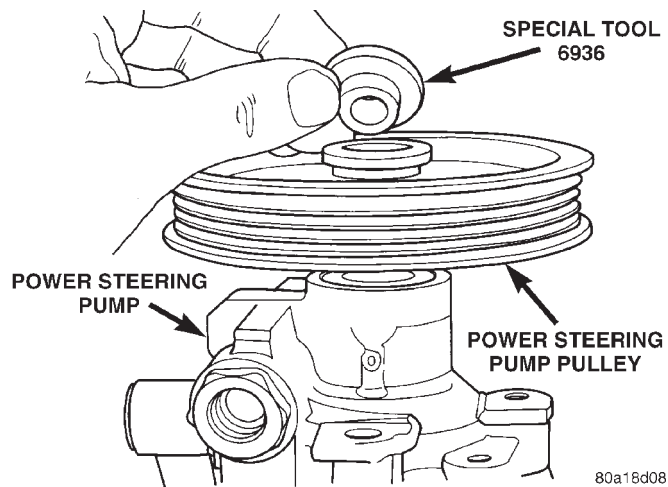

Fig. 55 Special Tool 6936 Correctly Installed On Power Steering Pump Pulley
- (3) Place Installation Spacer, Special Tool 6936, (Fig. 55) on top of the power steering pump pulley.